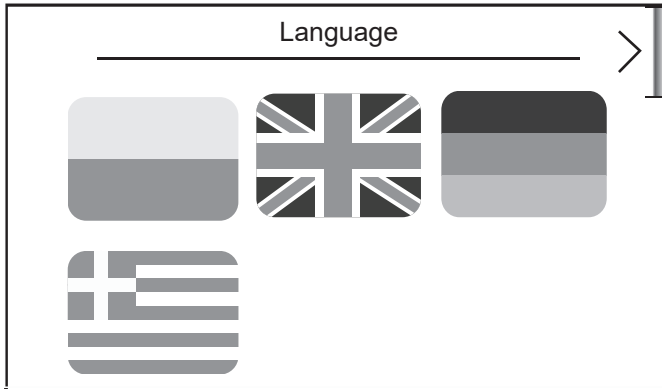

Figure 6-1: Language selection
1. Turn on the Smart controller via the wiring centre power switch and allow the software to cycle to the language selection panel. (Refer to Figure 6-1).